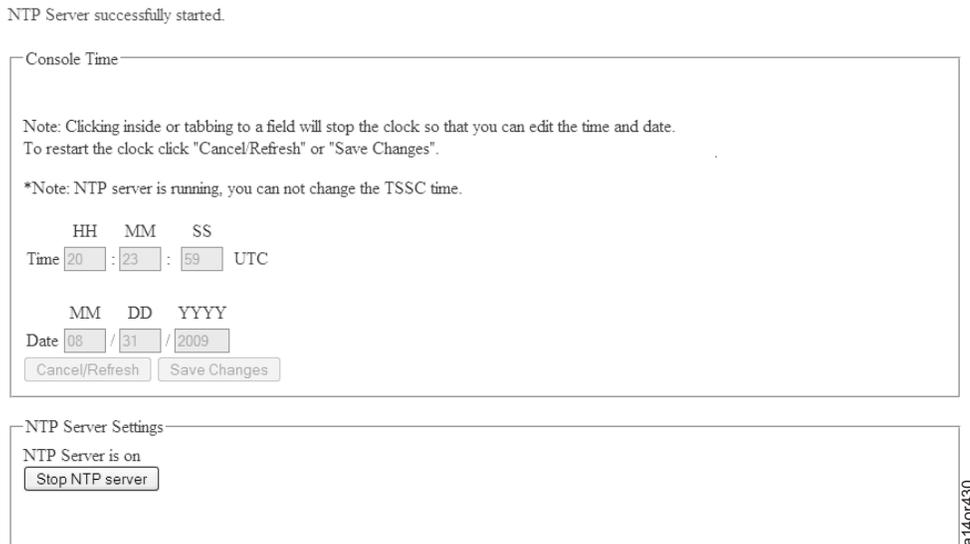

Figure 130. Stop NTP Server Screen
5. See Figure 130. If you need to change the system clock on the system console, you must first ensure the NTP server is stopped. To do this, click **Stop NTP server**.